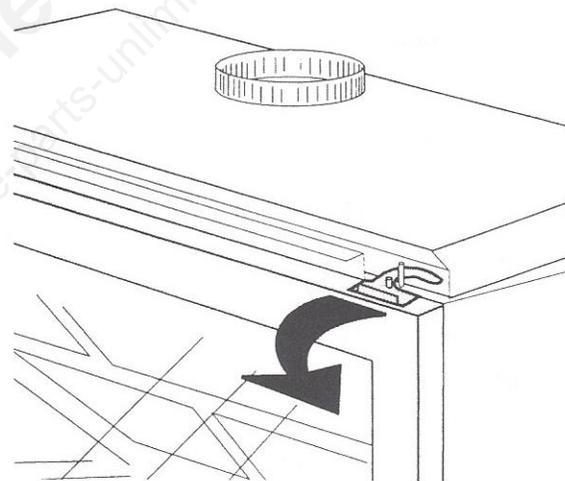

Figure 8. Swivel the latches to release the glass frame from the firebox.
1. Swing open the swiveling latches at the top left and right corners of the glass frame. Figure 8.